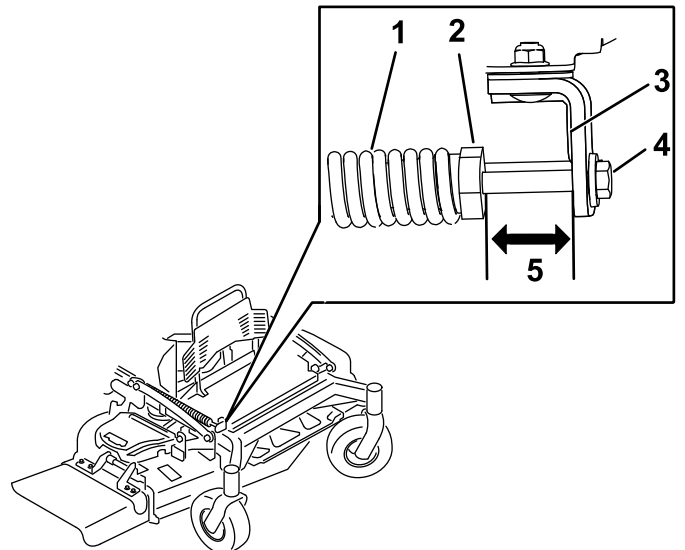

Figure 86
2. Check the distance between the spring nut and the rear side of the welded mount bracket (Figure 86).
3. Ensure that the length is between 47 to 50 mm (1.8 to 2 inches) as shown in Figure 86.
4. If needed, adjust the distance by adjusting the bolt on the front of the mount bracket (Figure 86).